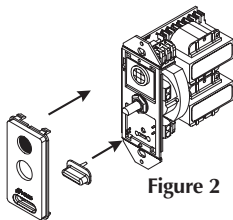

Figure 2
4. Locate the new Decora-style insert. Hold the volume control facing you. Insert the two bottom tabs into the bottom slots first, then the two tabs on the top (Figure 2). Press carefully on the front of the insert to snap it into place.